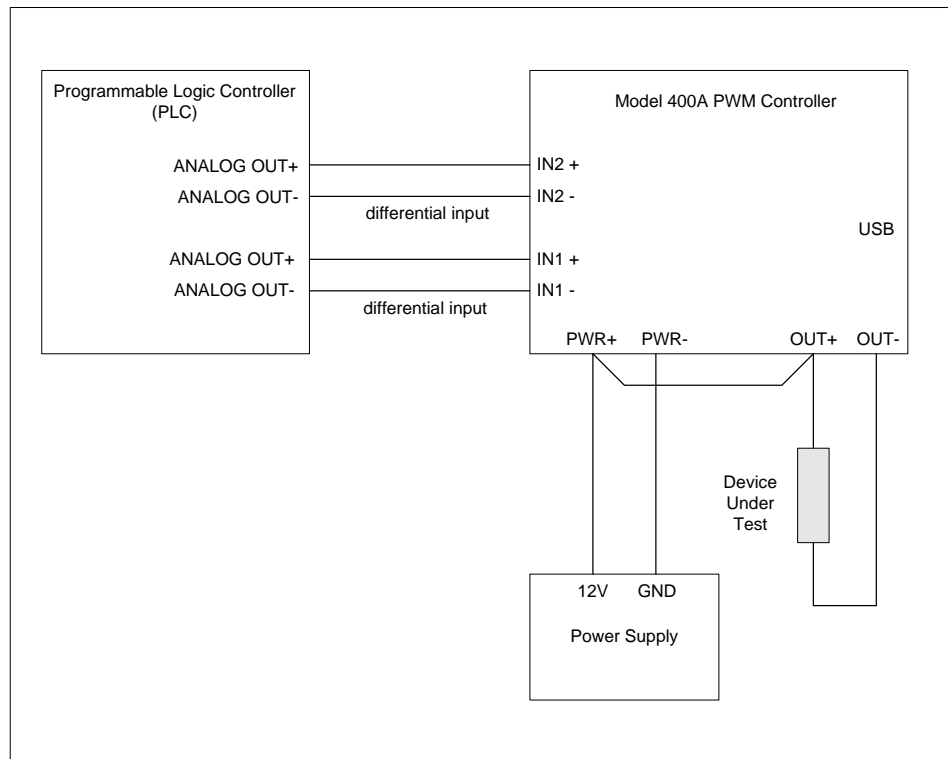

Figure 3.1-3 Model 400A PWM Controller – typical installation.
(1) PWR-, IN1-, and IN2- are electrically isolated (not internally connected). The PWMC-400A may be connected in a common ground configuration, however, the application must connect these pins together to utilize the same reference (ground). See figure 3.1-3 for a typical installation.